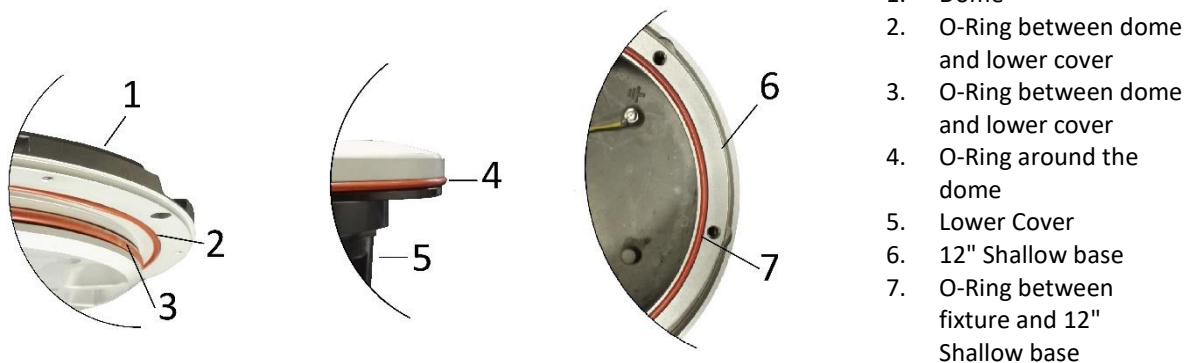

Figure 22– Fixture Gaskets
- two O-Ring between dome and lower cover (Figure 22- n°2 and 3);
- O-Ring around the dome (Figure 22- n°3);
- O-Ring between fixture and 12" shallow base (Figure 22- n°7);